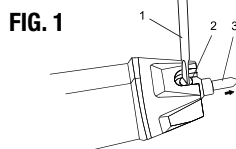

FIG. 1
- Insert a small slot screwdriver (1) into the engraving tip set screw (2) (Fig. 1).
- Check to make sure the engraving tip is in good condition and is properly installed in the tool (Fig. 1).